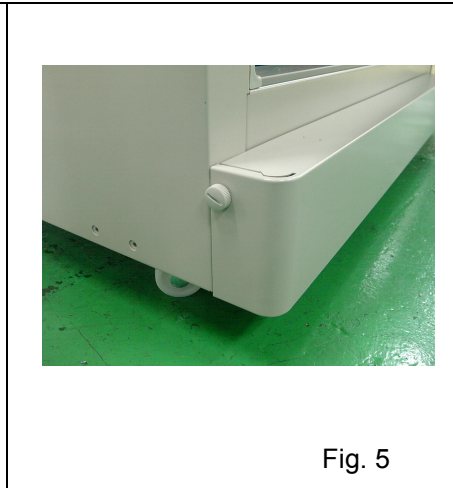
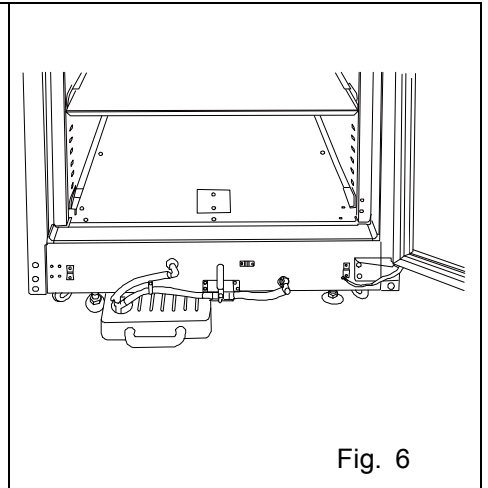

Fig. 5
Fig. 6
6. Remove screws at the lower both side to remove the front panel lower cover (Fig.5). To drain all humidifying water, open the drain valve. Then water drain away through the drain outlet (Fig.6). Wipe off remained water with a dry gauze.